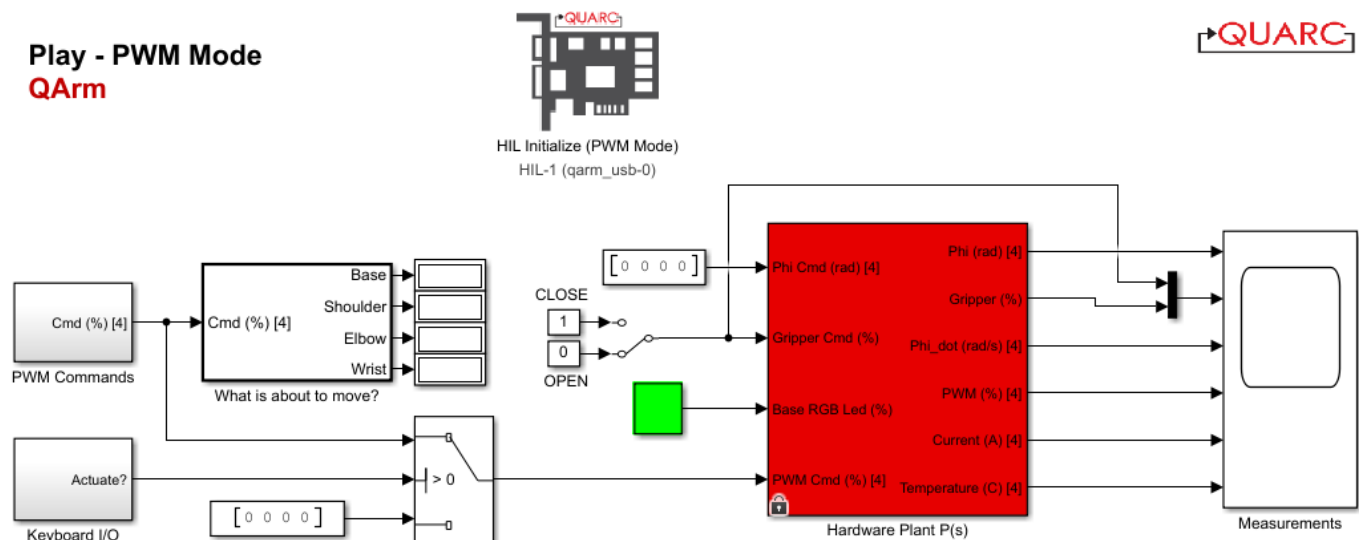

Figure 3: Simulink model that controls the QArm in PWM mode
1. Open the Simulink model `play_pwm_mode.slx` (Figure 3). You will use this model to experience the PWM signal being sent to each joint.